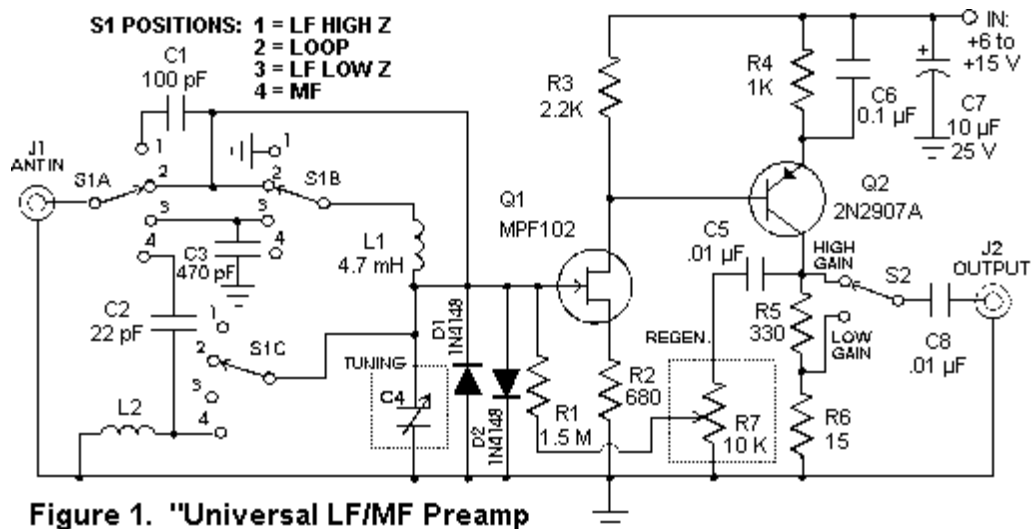
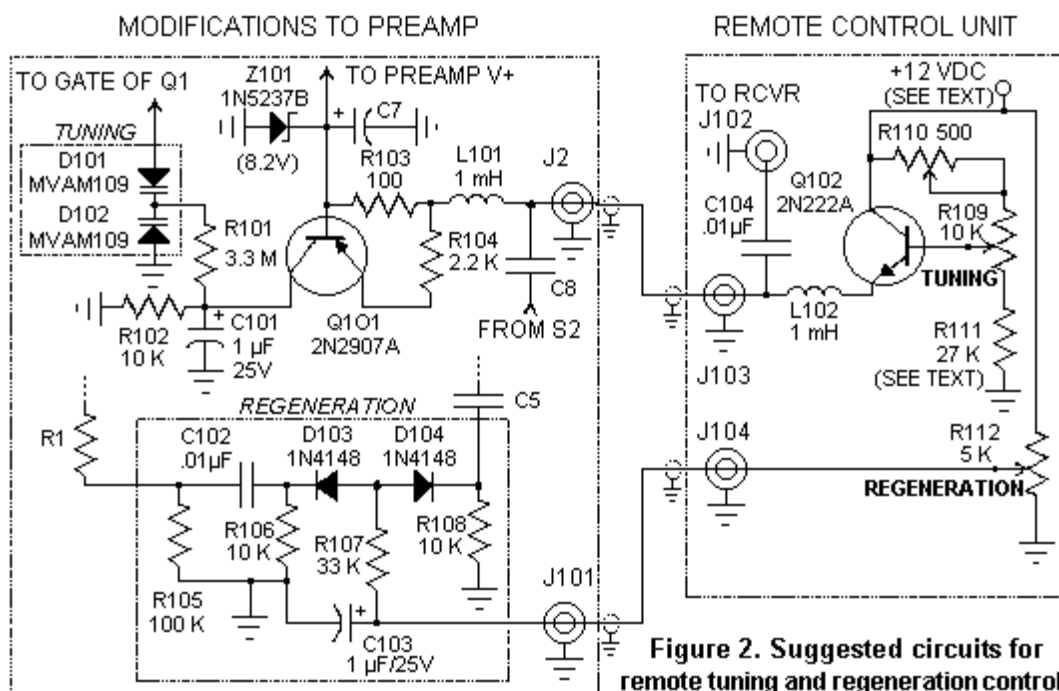

Figure 1. "Universal LF/MF Preamp"
Figure 2. Suggested circuits for remote tuning and regeneration control.
The universal preamp design is shown in Figure 1. It fits on a Radio Shack No. 276-150 general-purpose IC board with room to spare. Layout isn't especially critical; just follow the usual rules of RF circuit construction. Keep all leads as short as possible, and allow a respectable distance between the input and output leads. The preamp should be enclosed in a metal box to provide shielding. Tuning and regeneration control components are shown enclosed in dotted lines. Later in this article I'll show how these circuits can be modified to allow remote operation.
Suggested circuits for remote tuning and regeneration control are shown in Figure 2. Parts with three-digit numbers are additional components needed for remote control. Single-digit part numbers refer to components previously identified in Figure 1. Remote tuning is accomplished by using a back-to-back pair of varactor diodes in place of C4. The maximum capacity of a pair of MVAM109s in series is only about 250 pF. If desired, C4 can be left in the circuit to extend the low end of the tuning range, or another pair of varactor diodes can be connected in parallel with D101 and D102. MVAM109s are available from DC Electronics at (800) 467-7736.
If you want, you can run a multiple-conductor shielded cable between the control unit and preamp, and use separate wires for power, signal and tuning. (I've used 150 feet of ordinary audio cable in my field tests of the preamp with no significant loss of signal.) Separate wires let you use a much simpler remote tuning circuit. But that's too easy. Figure 2 shows how to make one shielded wire perform multiple tasks. Q101 functions as a DC amplifier with offset, so that the tuning voltage varies from zero to 9 volts while the voltage on J2 is varied from about 9 to 11.5 volts. RF chokes and blocking capacitors at each end of the line isolate the signal output from the DC supply/tuning voltage. With this circuit, a single coaxial line carries the power and tuning control voltage to the preamp, and brings the output signal back to the receiver.
with the pot fully clockwise. Increasing the value of R111 will raise the minimum tuning voltage. Increasing the supply voltage will raise the tuning voltage at all settings of the tuning pot. The 500-ohm pot (R110) in Figure 2 is a "fine tuning" control. It can be omitted if you don't plan to use regeneration.
Thanks to Bruce, AAØYB and Sam, WØIMG for leaving their beacons on during the thunderstorm season so I could perform some actual listening tests on LowFER signals. Both of their transmitters are about 95 miles from me, which provides a reliable signal path when the QRN isn't overwhelming. Using either the circuit of Figure 1 or a preamp with the remote tuning options in Figure 2, BK and SAM came in very well on a homebrew LF receiver with any of three portable loops ranging from 30 inches to 48 inches in diameter. Signals were also readable on a Radio Shack DX-440 portable receiver with all of the loops, although the 30-inch loop is pretty marginal.